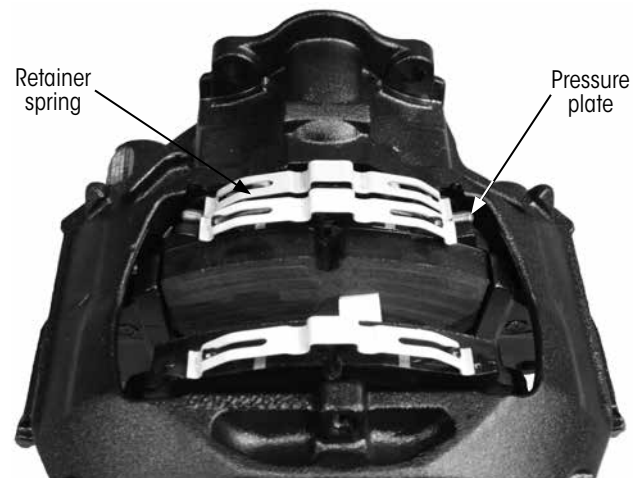

Figure 22: Retainer spring, pad retainer bar removed
4. **Remove** the retainer spring from the pressure plate (Figure 22).